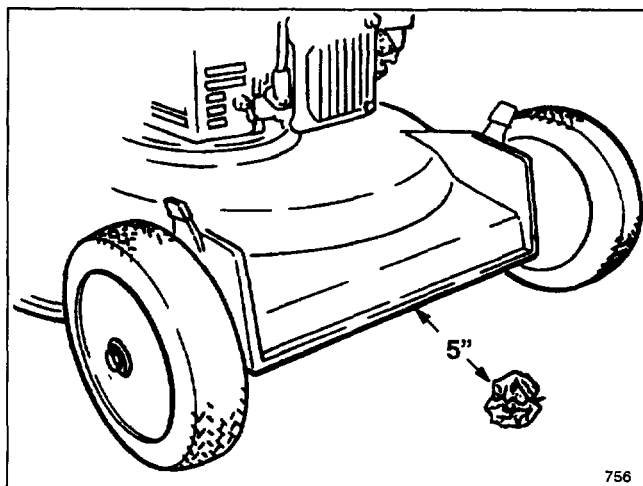

Figure 11
4. Take a half sheet of newspaper and crumple it into a ball small enough to go under deck (approx. three inches in diameter) (Fig. 11).
5. Place ball of newspaper five inches in front of mower (Fig. 11).